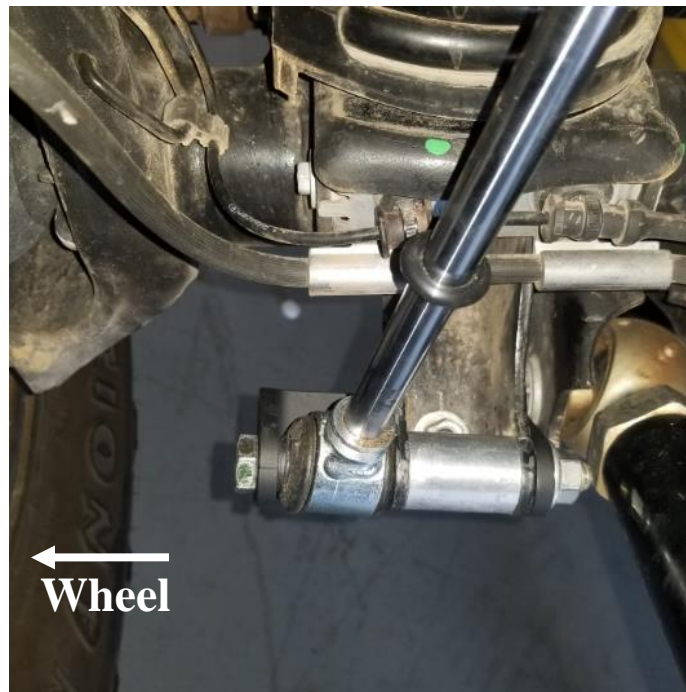

Figure 11 – Driver side bottom mount
- R.** Place the spacer in between the flanges of the OE mount. Then position the shock's lower mount outside of the OE's mount as shown in figure 11. Secure it with the M12 bolt and nut.